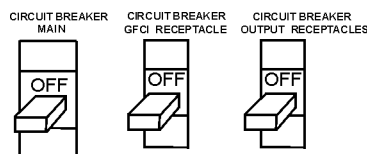

Figure 20. Main, GFCI and Load Circuit Breakers
1. Be sure to disconnect the electrical load and switch the *main*, *load* and *G.F.C.I.* circuit breakers (Figure 20) to the "OFF" position prior to starting the engine.